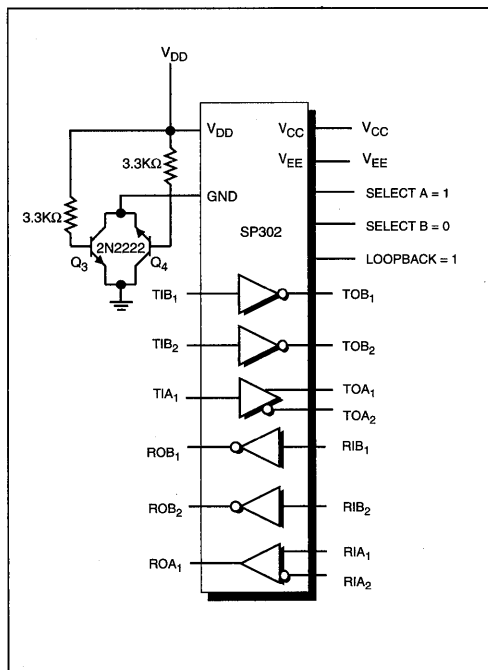

Figure 2. Typical Circuit
Figure 2 shows a typical circuit for the **SP301/302**. In this case the **SP302** is shown configured for one (1) duplex RS422 and two (2) duplex RS232 communication paths.